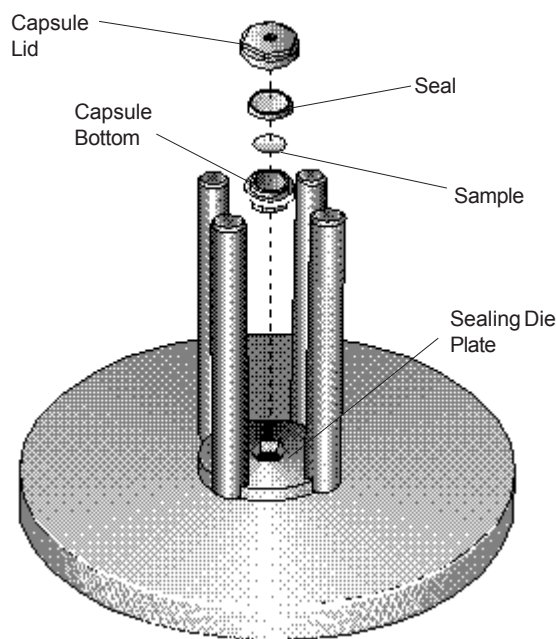

Figure 1
Refer to Figure 1 and follow the instructions in this section to prepare sample capsules for the DSC high pressure capsule experiments.
2. Using tweezers, place a capsule bottom in the hexagonal hole of the sealing plate (see Figure 1).
3. Place the sample carefully in the capsule bottom; then place the seal, cup downward, on the capsule (see Figure 1).